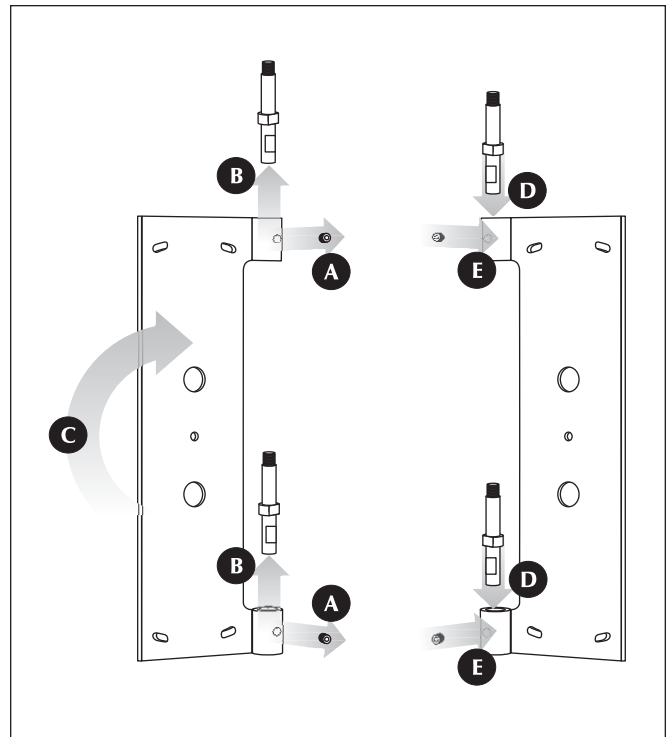

Figure 9. Changing the pivot direction of the EFX wall bracket.
- 2 Using a 2.5mm Allen tool carefully loosen the two set screws that hold the two hinge pins in place (see figure 9, step A).
- 3 Remove the 2 hinge pins (see figure 9, step B).
- 4 Rotate the wall bracket 180 degrees (see figure 9, step C).
- 5 Reinstall the two hinge pins (see figure 9, step D).
- 6 Using a 2.5mm Allen tool, reinstall the two set screws to lock the hinge pins in place. Make sure the set screw tightens against the flat surface of the pin (see figure 9, step E).